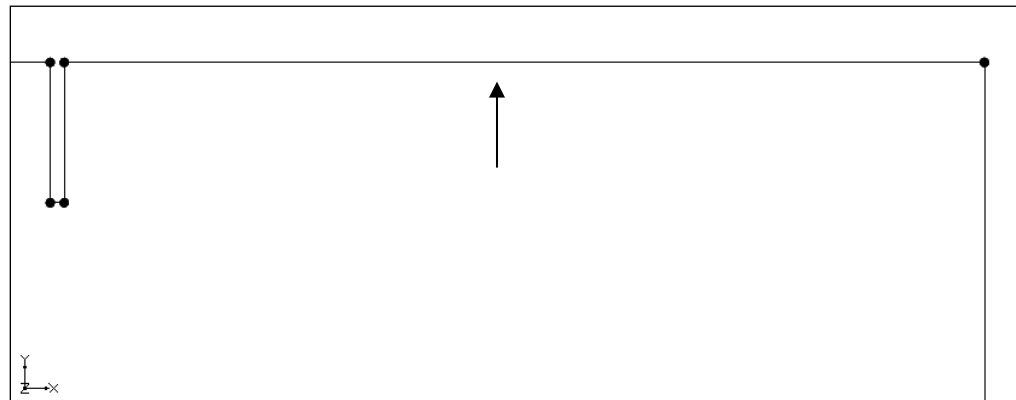

Figure 7 Create the final arc
7. Using the **Create Arc**  tool, create the arc indicated by the arrow in Figure 7. Notice there is no arc across the top of the sheet pile.